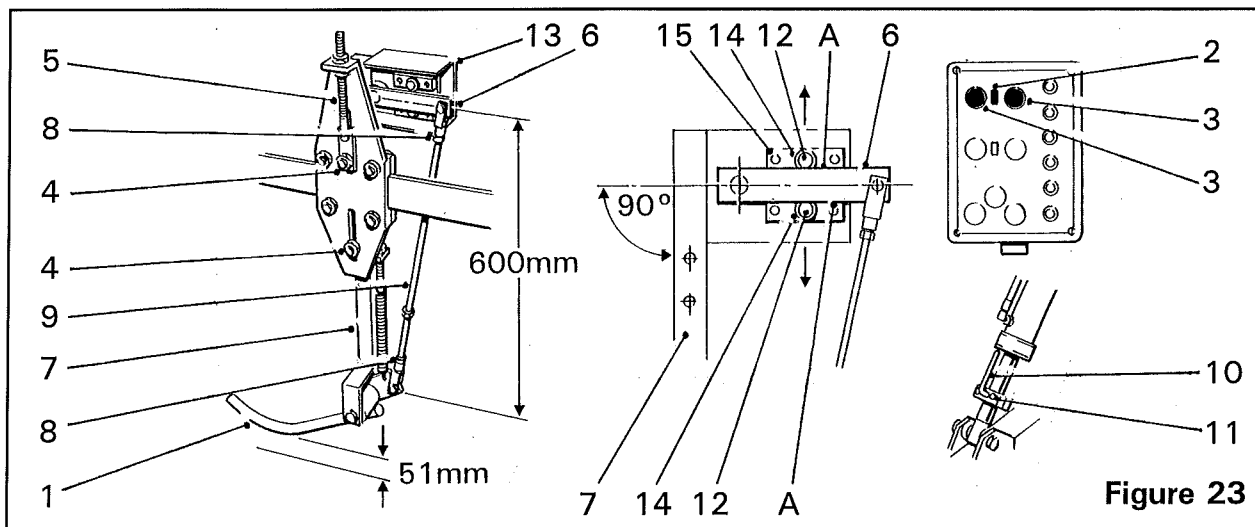

Figure 23
The purpose of the automatic depth control unit is to ensure the lifting wheels are always lifting at the same depth. The depth foot (*item 1, figure 23*) runs along the ground between two rows of beet following the contours of the land. The depth foot actuates proximity switches which in turn operate the drawbar depth ram which then corrects the harvester.
To engage the automatic depth control, press the control box switch (*item 2, figure 23*). Manual control can be obtained by disengaging the automatic depth control and pressing the up and down buttons (*item 3, figure 23*).
To adjust the automatic depth control, place a 51 mm (2") block of wood, or something to represent the depth at which you wish to lift, beneath the depth foot (*item 1, figure 23*). Ensure the connecting rod dimension is 600mm. Loosen the retaining bolts (*item 4, figure 23*) and, using the adjuster (*item 5, figure 23*), raise or lower the complete unit until the sensor arm (*item 6, figure 23*) is at 90° to the depth stalk (*item 7, figure 23*). Retighten all nuts and bolts. The machine is now set to lift at the required depth.
If finer adjustment is required, loosen the clevis locknuts (*item 8, figure 23*) and turn the connecting rod (*item 9, figure 23*). Be sure not to turn the connecting rod more than a couple of turns. Finally, retighten the locknuts (*item 8, figure 23*).
The drawbar ram depth marker (*item 10, figure 23*) should be set after the harvester lifting depth has been established. Loosen the retaining bolts (*item 11, figure 23*) and slide the marker until the top edge is aligned with the bottom edge of the ram. Finally, retighten the retaining bolts.
The proximity switches (*item 12, figure 23*) are located inside the depth control box (*item 13, figure 23*). Under normal circumstances, these are factory set.
The retaining nut (*item 14, figure 23*) holds the proximity switch in place. If the nut is loosened the switch can be positioned closer or further from the sensor arm (*item 6, figure 23*).
The remaining adjustment is for altering the time that elapses between one switch deactuating and the other switch actuating (dead band). To adjust the dead band, the switches are moved fractionally closer/further from the sensor arm edges "A". Moving the proximity switches fractionally away from the arm as shown by the arrows will increase the dead band. Moving the proximity switches fractionally closer to the arm will decrease the dead band. The proximity switches are held in place by the setscrews (*item 15, figure 23*). Ensure both switches are adjusted equally in order to maintain the sensor arm neutral position at 90° to the depth stalk (*item 7, figure 23*).